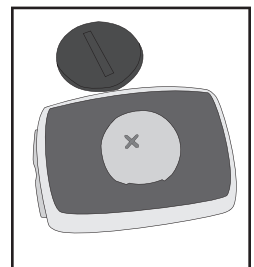

Figure 15- The 'cross' on the battery points up
6. Insert the new battery with the 'cross' and identifying label pointing up (Figure 15).